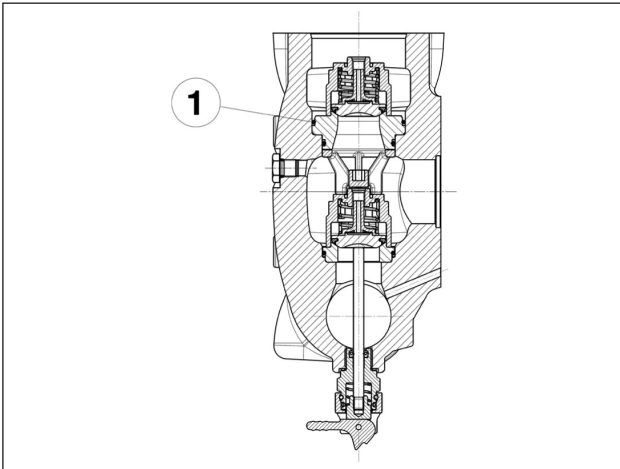

Fig. 128
Pay special attention to O-ring insertion indicated in pos. ①, Fig. 128. Use a special tool code 27516000 (for LK36-LK40-LK45) or code 27516100 (for LK50-LK55-LK60) to prevent the O-ring getting cut during insertion.